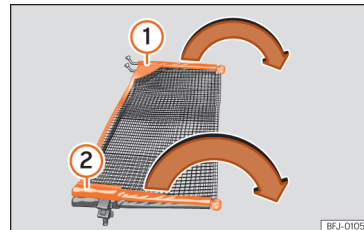

Fig. 131 Deploying the net partition.
Extend the cross rods »» Fig. 131 ① and ② of the net in the direction of the arrows until it "clicks".